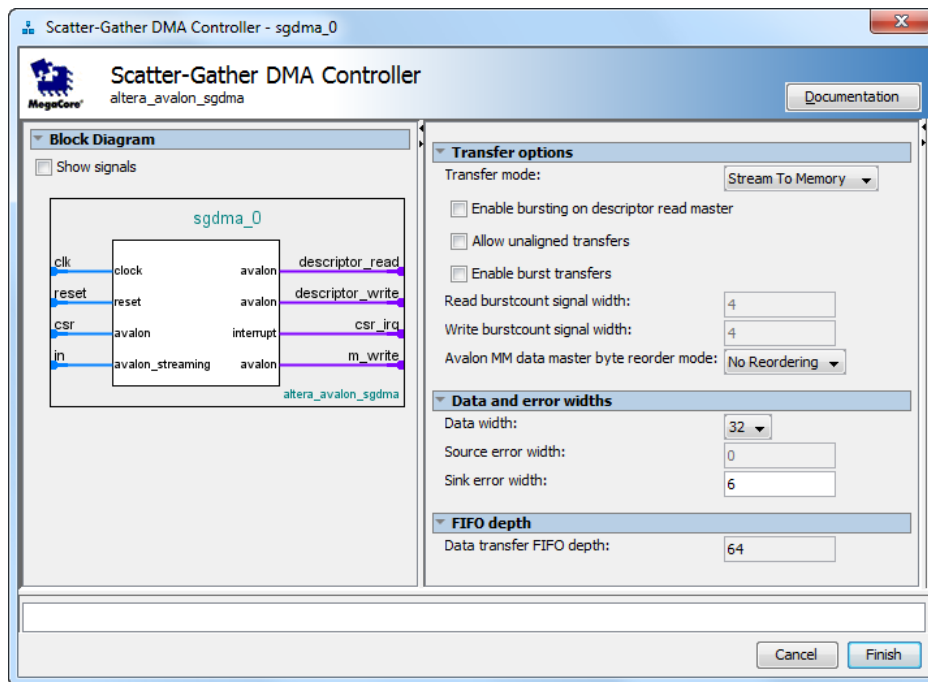

Figure 7. Settings for the SGDMA controller.
- Select **Stream To Memory** as the transfer mode and **6** as the sink error width, as shown in Figure 7.